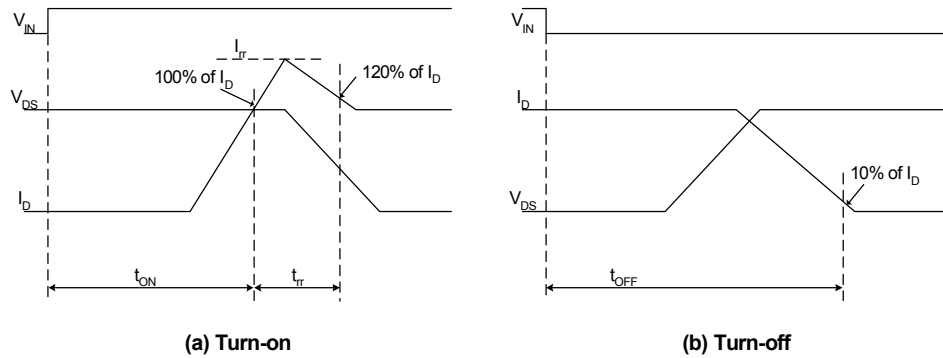
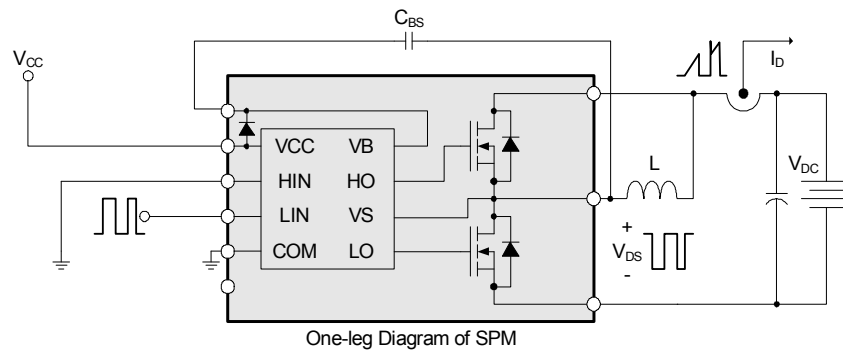

Figure 5. Switching Time Definition
Figure 6. Switching and RBSOA(Single-pulse) Test Circuit (Low-side)
- t_{ON} and t_{OFF} include the propagation delay time of the internal drive IC. Listed values are measured at the laboratory test condition, and they can be different according to the field applications due to the effect of different printed circuit boards and wirings. Please see Figure 5 for the switching time definition with the switching test circuit of Figure 6.
- The peak current and voltage of each FRFET during the switching operation should be included in the safe operating area (SOA). Please see Figure 6 for the RBSOA test circuit that is same as the switching test circuit.